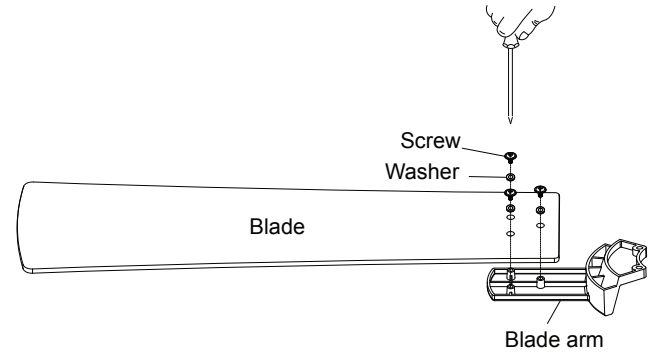

Fig. 16
**Step 1.** Align the holes from the blade and washer to the holes from the blade arms, and secure the blade in place with screws provided. (Fig. 16)